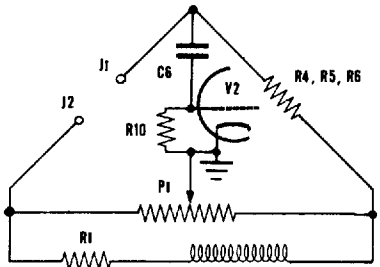
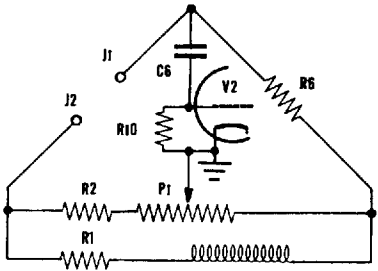

Fig. 4
Fig. 5
- Fig. 4. Bridge circuit for ".5Ω - 500Ω" range (R4), "50Ω - 50,000Ω" range (R5), and "5000Ω - 5MΩ" range (R6).
- Fig. 5. Bridge circuit for "5MΩ - 500MΩ" EXPANDED range. R2 expands resistance measurement range as compared to circuit of Fig. 4.